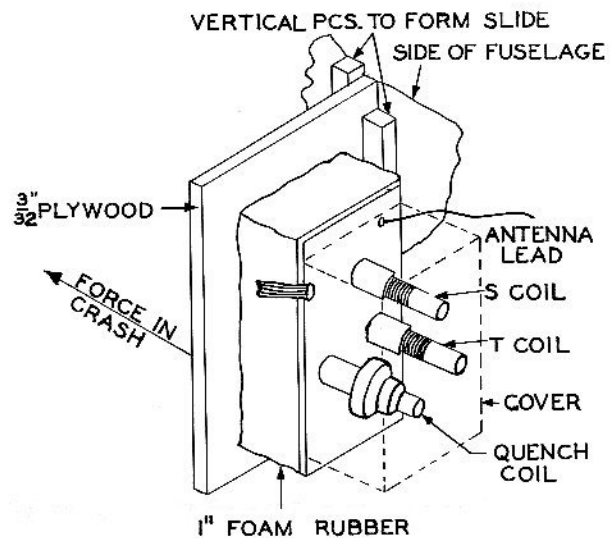

Fig 2
- 5.1 The "crash-proof" mounting (Figure 2) is the method of mounting the set so that the components are stressed to best resist the shock of a crash. In Figure 2 the receiver is shown glued directly to the sponge rubber at the ends only where there is no printed wiring. If you wish to glue the receiver to the sponge more securely, place a spot of glue in the center of the circuit board so that it will anchor to the sponge there also. Do not glue the entire printed circuit board to the sponge as this makes very difficult any repairs to the receiver that might ever be necessary.